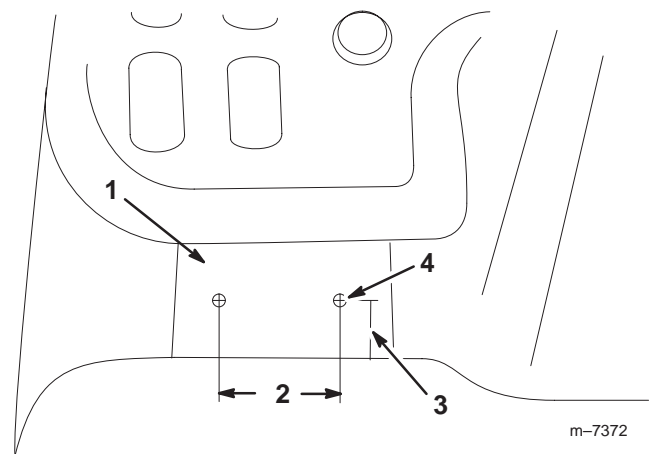

Figure 2
1. Drill two holes, 3/16 inch in diameter, in the center of the flat part of the dash to the left side of steering wheel as shown in figure 2.